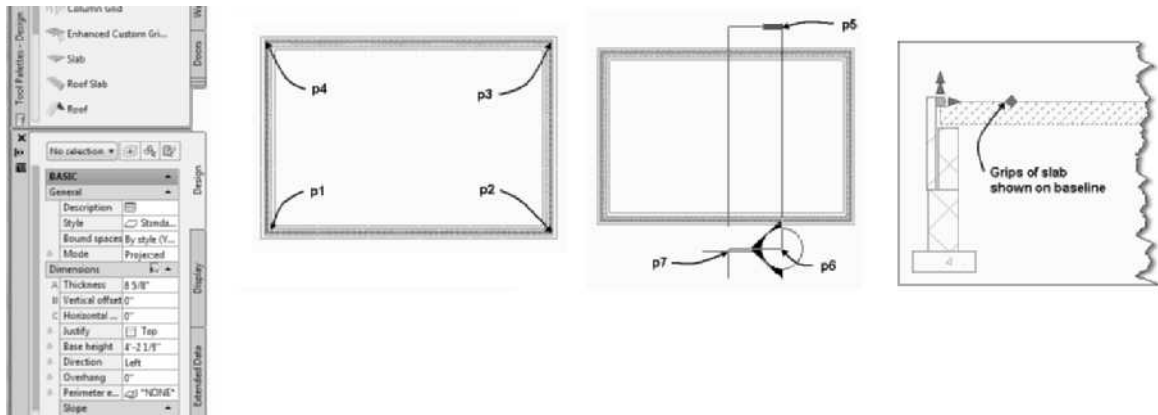

FIGURE 8.3 Location of vertex points for the slab
Specify next point or: (Use the Node object snap to select point p1 as shown in Figure 8.3.)
Specify next point or: (Use the Node object snap to select point p2 as shown in Figure 8.3.)
Specify next point or: (Use the Node object snap to select point **p3** as shown in Figure 8.3.)
Specify next point or: (Use the Node object snap to select point **p4** as shown in Figure 8.3.)
Specify next point or: (Use the Node object snap to select point **p1** as shown in Figure 8.3.)
Specify first point of section line or Enter to change UCS: (Select a point near **p5** as shown in Figure 8.3.)
Specify next point of section line: (Select a point near **p6** as shown in Figure 8.3.)
Specify section extents: (Select a point near **p7** as shown in Figure 8.3.)
7. Select the slab to view the grips of the slab. The grips are located at the top of the slab as shown in Figure 8.3. The thickness of the slab is projected down from the baseline location.